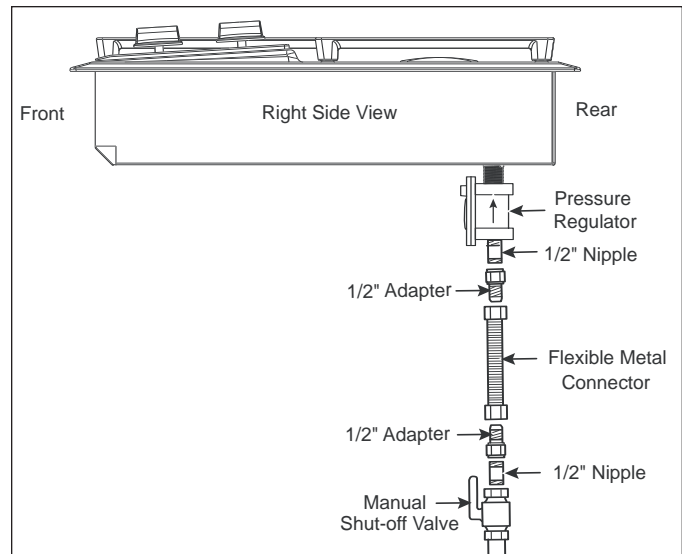

Figure 4-12. Regulator Removal
3. To remove the regulator, turn off the gas supply source. Unplug the power cord from its electrical supply source. Then, remove gas connections coming into the regulator from the supply source. Now, unthread the regulator from the end of the manifold pipe. (See Figure 4-12).